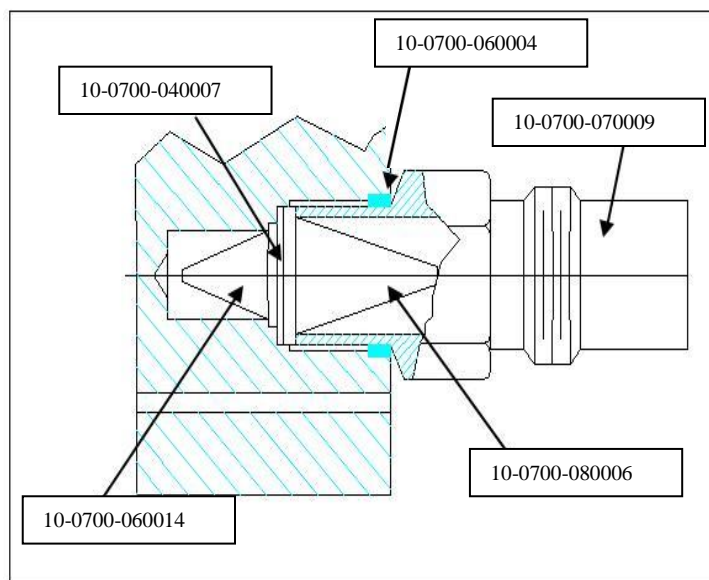

Figure 12
3.0 AIR INLET DISASSEMBLY/REASSEMBLY- BOTTOM REAR OF 30L LOW FLOW BLENDER (FIGURE 12)